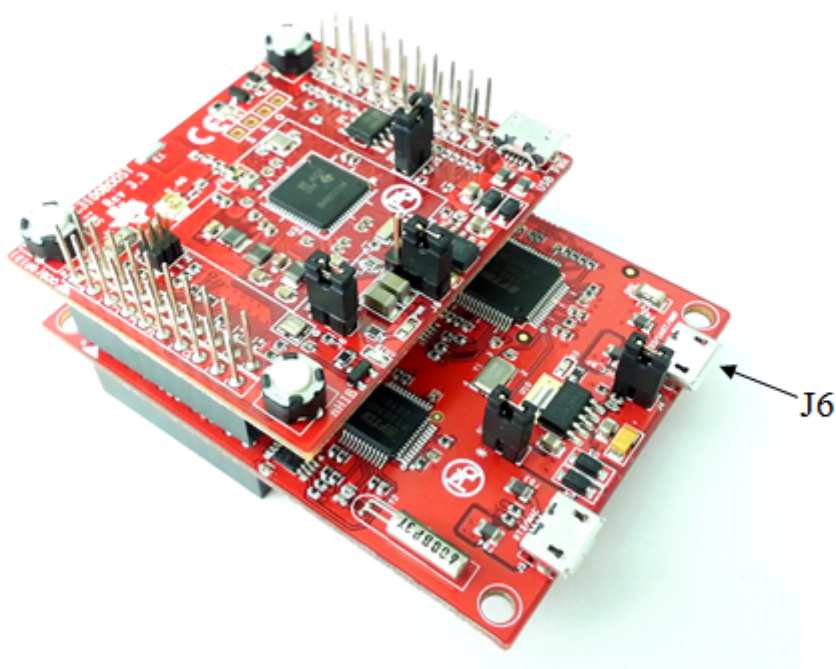

Figure 3. Connect the CC3100BOOST to the CC31XXEMUBOOST
3. Connect the CC3100BOOST to the CC31XXEMUBOOST as shown in Figure 3.